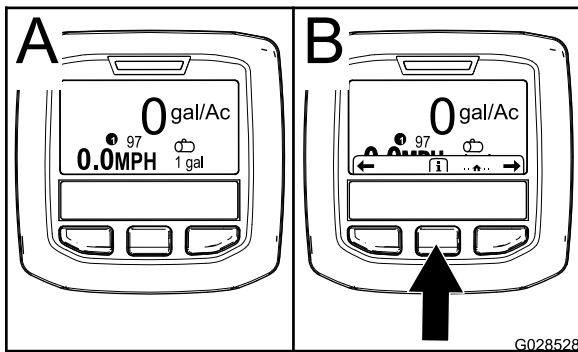

Figure 59
2. After approximately 15 seconds, the home screen appears. Press the center selection button to display the information context (Figure 59).